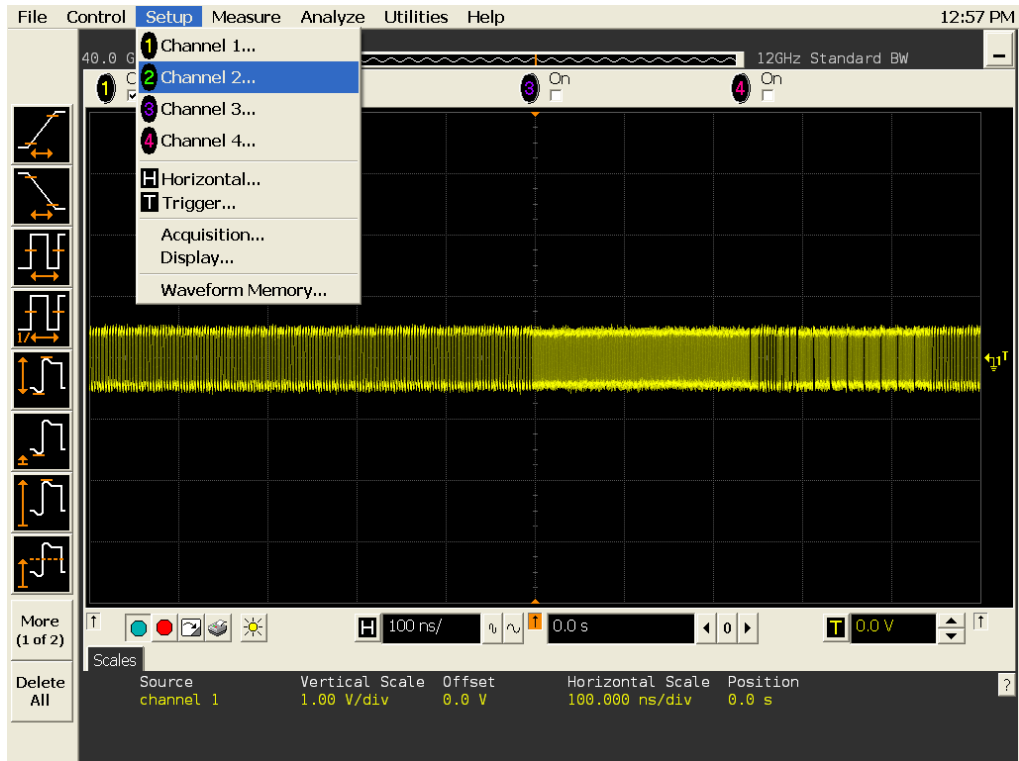

Figure 58 Channel Setup Window.
- 1 Referring to Figure 58 below, perform the following steps: